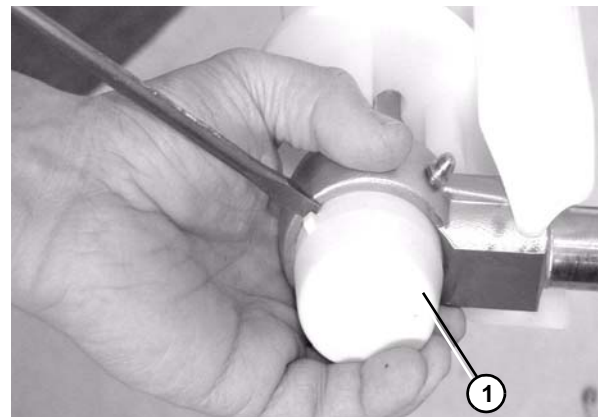

Figure 61
3. Remove the bearing cover (**Figure 61, item 1**).
6. Attach the bearing covers. Reference figure 61.
5. Replace the bearing. Reference figure 61.